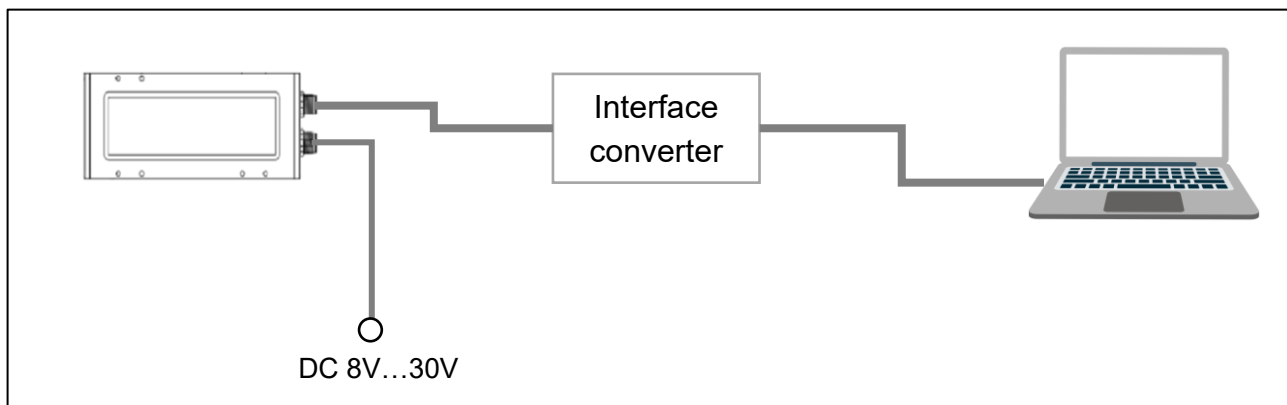

Figure 14 TF-UP01 connection to PC
- Connect TF-UP01 to the PC or laptop with a **paired USB converter** as shown in *Figure 14 TF-UP01 connection to PC*. The UART version TF-UP01 needs a UART-USB converter, and the CAN version TF-UP01 needs a CAN-USB converter.